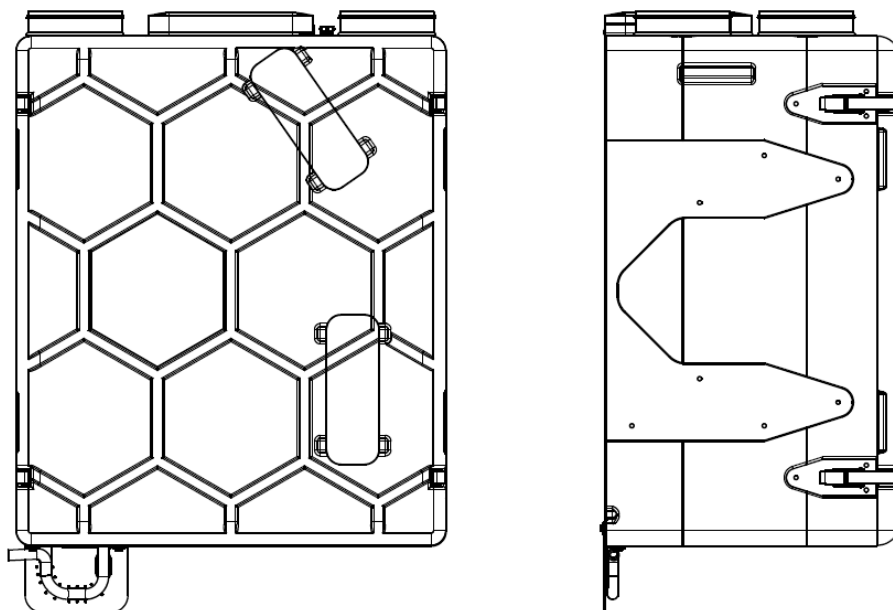

Figure 14 – elastic pipe strapped down to siphon plate
- Strap down elastic pipe to siphon plate with included cables ties according to figure 14.